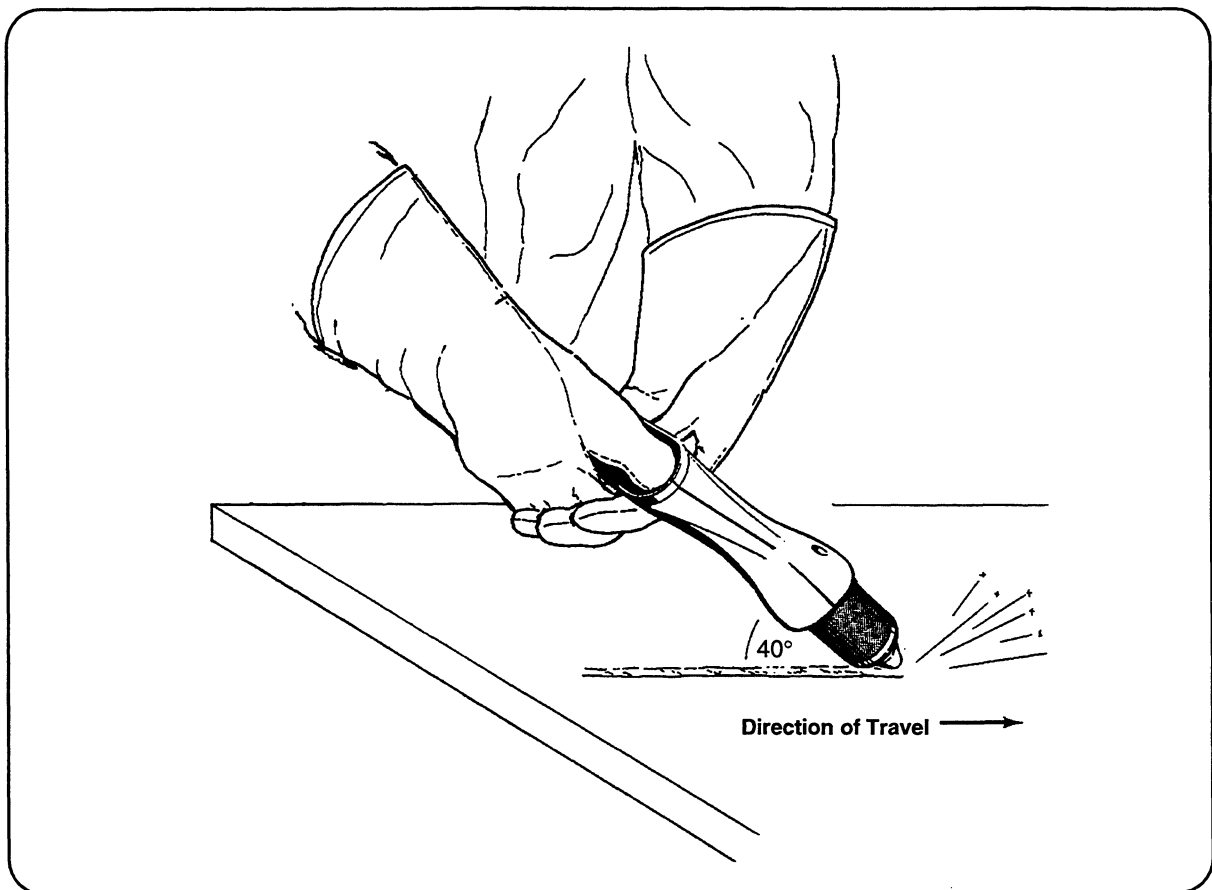

Figure 4-8 Gouging
- Tilt the torch approximately 40-45° from the surface to be gouged and feed into the gouge. Try not to allow the shield to come in contact with the plate since this can cause premature wear. Multiple passes or "wearing" may be necessary to gouge wider and deeper sections. (See Figure 4-8. See also data in *Cut Charts* for mild steel gouging.)